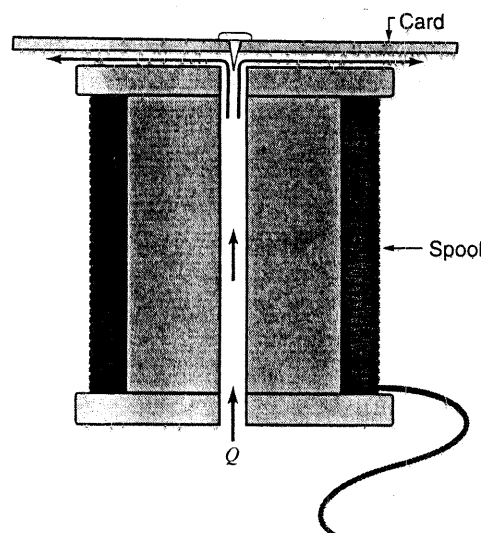

FIGURE P3.89
3.89 A small card is placed on top of a spool as shown in Fig. P3.89. It is not possible to blow the card off the spool by blowing air through the hole in the center of the spool. The harder one blows, the harder the card "sticks" to the spool. In fact, by blowing hard enough it is possible to keep the card against the spool with the spool turned upside down. (Note: It may be necessary to use a thumb tack to prevent the card from sliding from the spool.) Explain this phenomenon.